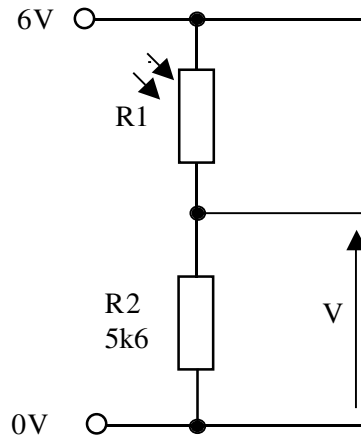

Fig. 1(a)
1 (a) A voltage divider circuit is shown in Fig. 1(a).
- (i) State the name of the component R1 in Fig. 1(a). [1]